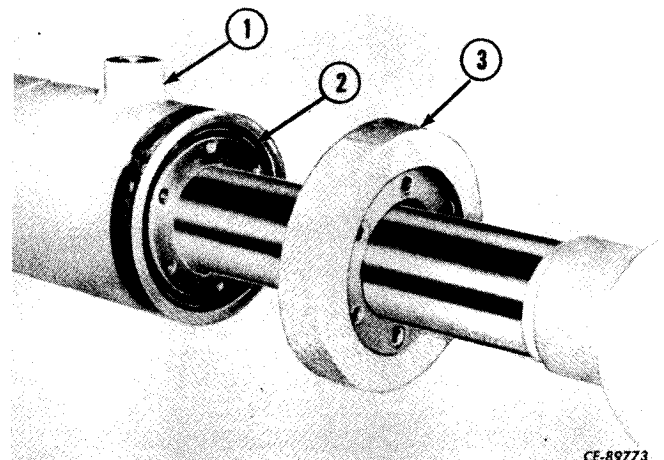

Figure 11-94
Slide the cover (3, Fig. 11-94) down the rod and remove the "O"-ring (2) from the cylinder.
Install the "O" ring (2, Fig. 11-94) in the cylinder (1).